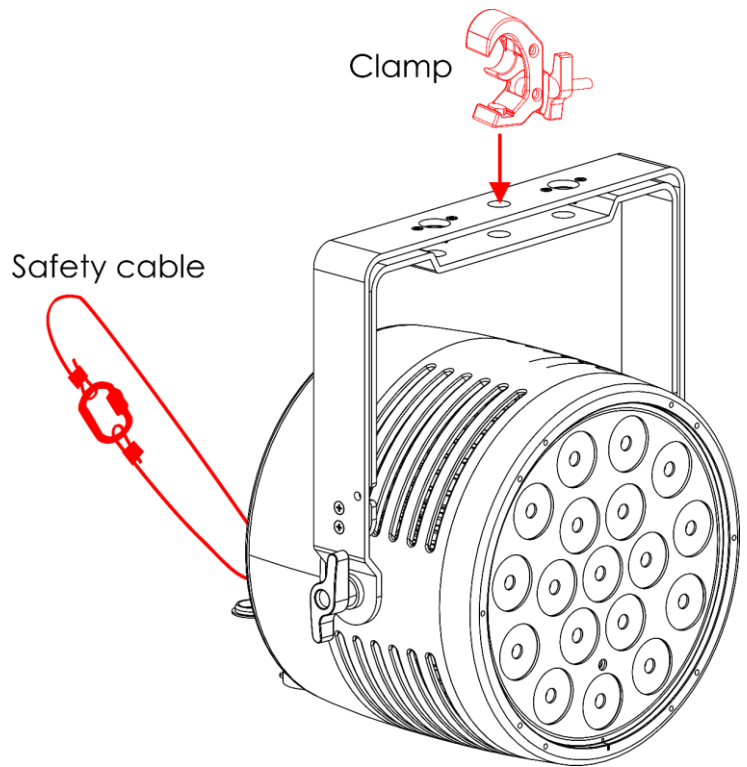

Fig. 06
- 02) Secure the device with a secondary suspension, for example a safety cable. Make sure that the secondary suspension can hold 10 times the weight of the device. If possible, the secondary suspension should be attached to a supporting structure independent of the primary suspension. Put the safety cable through the **safety eye (12)**, as shown in Fig. 06.